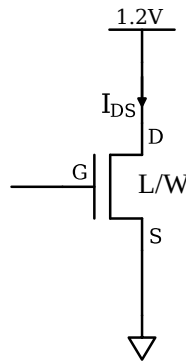

Figure 1: NMOS transistor with $W = 1\mu m$, $L=50$ nm.
- a.** For the NMOS in Figure 1, plot I_{DS} versus V_{GS} for $V_{GS} \in [0V, 1.2V]$ (sweep V_{GS} from 0V to 1.2V).